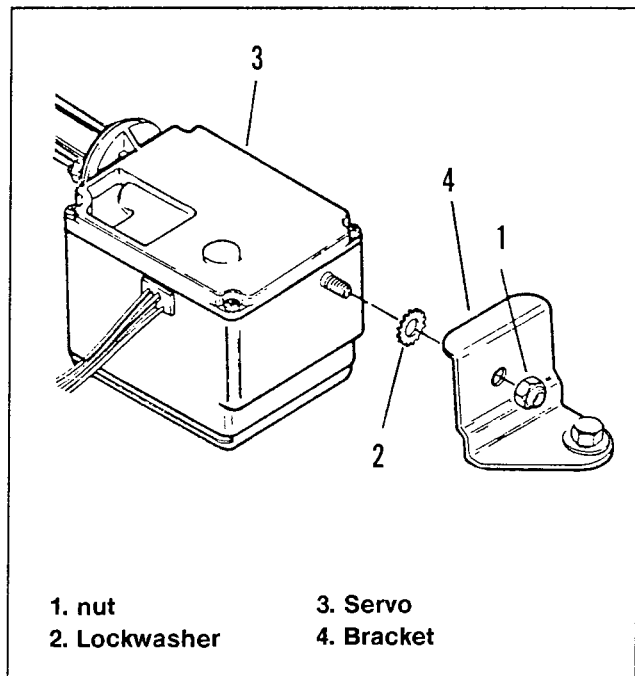

Figure 1. Servo Mounting
2. See Figure 1. Remove nut (1) attaching servo (3) to bracket (4). Pull servo free of bracket and remove lockwasher (2). Servo can now be moved to gain access to module mounting screws.
6. Attach module (2) to cross member (3) under seat using the two mounting screws (1) removed with original module
7. See Figure 1. Place lockwasher (2) on stud at end of servo (3). Insert stud into bracket (4). Install nut (1) onto servo mounting stud and tighten.